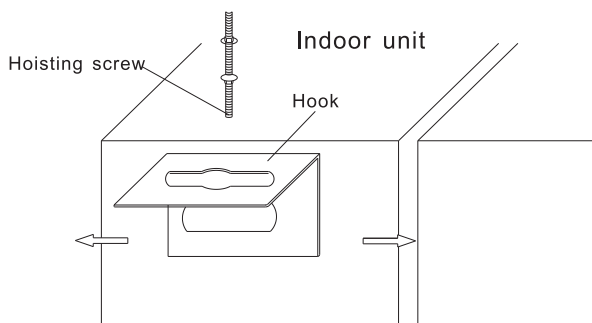

Fig 5
- Fix hooks in the indoor unit (refer to Fig 5)